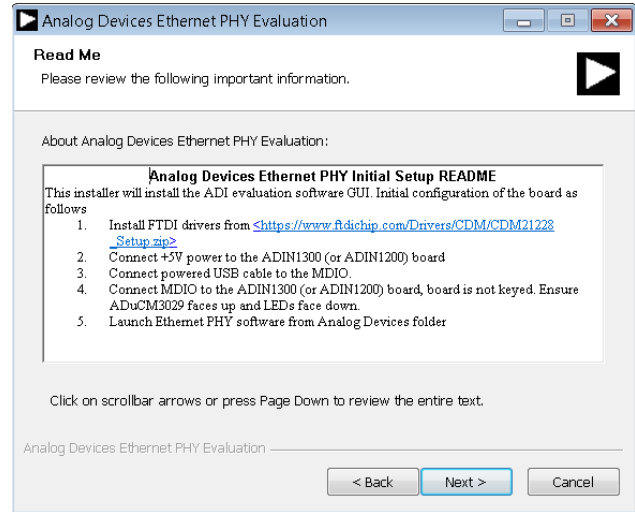

Figure 8. Installation Process Overview
4. The Ethernet PHY software launches. An overview of what is being installed and recommendations in terms of hardware power-up appears. Read the overview and click **Next** (see Figure 8).